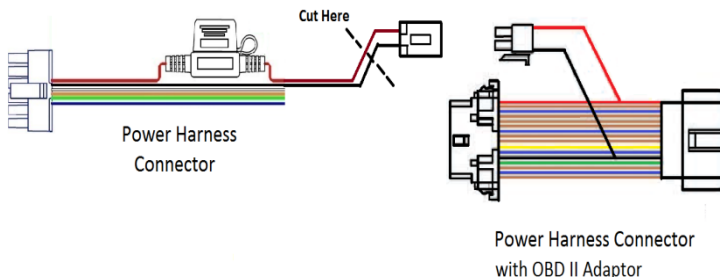

Figure 1
- Cut the wire shown in figure 1 of the power harness.
- Connect the power harness and the OBDII pass through cable together as show in figure 1 and 2.